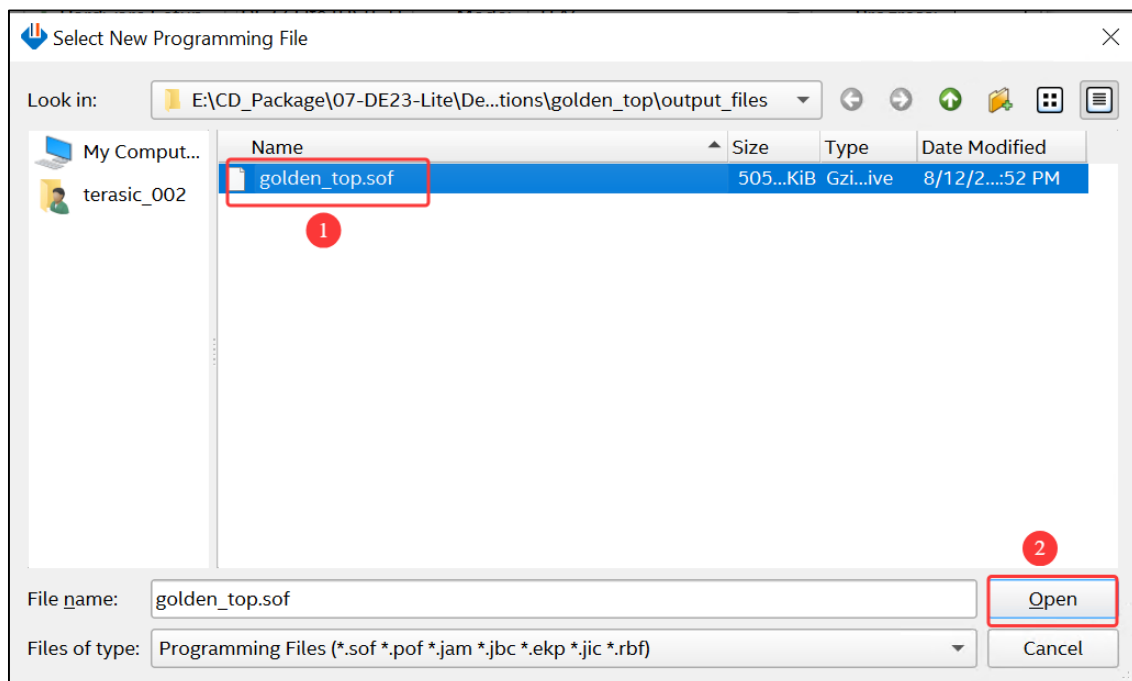

Figure 3-7 Select the .sof file to be programmed into the FPGA device
6. Select the .sof file to be programmed, as shown in **Figure 3-7**.